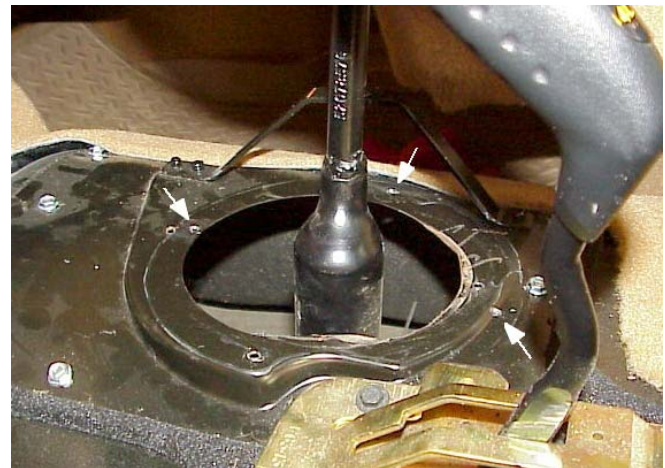

Figure 22
8) ☐ Rotate the boot clockwise to match the increased floor pan opening. Mark and drill the three new mounting holes. See figure 22.